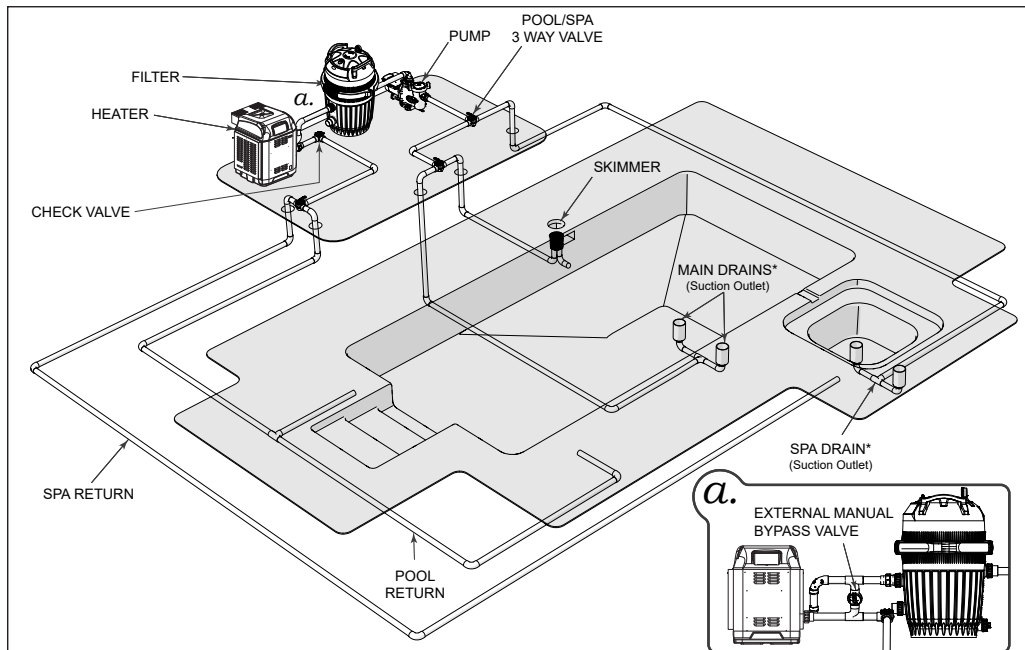

Figure 11. Typical Water Piping Configuration
4. An external by-pass valve must be installed before the filter if the flow rate exceeds 500 lpm (132 gpm). Refer to the manufacturer's recommendations if using a different brand heater (see Figure 11 Inset).
5. Install a corrosion resistant check valve in the return line if sanitation equipment such as erosion feeders and salt chlorination systems are installed (see Figure 11).